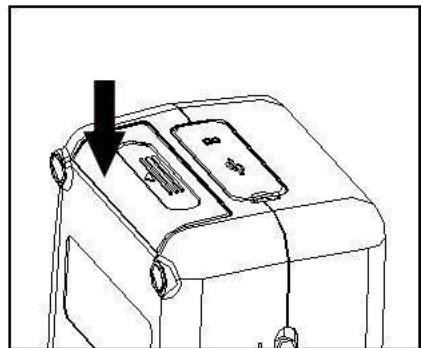

Figure 4. Mounting the battery cover
3. Follow the directions on Figure 4, press up to mount the battery cover into the compartment.